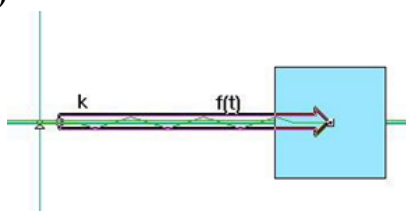

Fig. 5
6. As shown in Fig. 5, a single degree of freedom mass-spring system consists of a $m=10\text{kg}$ mass suspended by a linear spring which has a stiffness coefficient of $k=250\text{N/m}$. The system is subjected to a harmonic forcing function which has the amplitude 10N and frequency 5rad/s ($F(t)=10\sin(5*t)$). The mass is given an initial displacement of 1m and released from the rest condition. Determine the system (a) Differential equation of motion, (b) Circular Natural Frequency and Period, (c) Dynamic response. (10%)